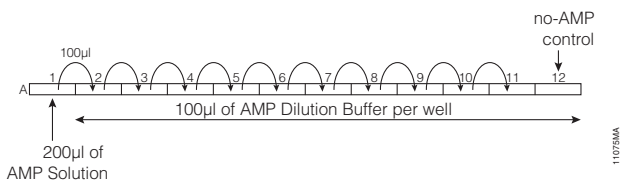

Figure 4. Dilution scheme for standard curve.
3. Perform a serial twofold dilution by transferring 100 μ l from well A1 to well A2 in column 2 and pipetting to mix. Transfer 100 μ l to well A3. Repeat for wells A4 through A11. See Figure 4. Discard the extra 100 μ l from well A11. Do not add AMP to the no-AMP control reactions in well A12.